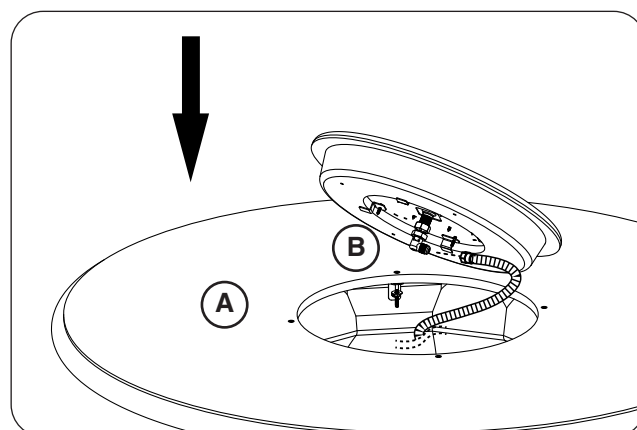

Fig. 29-4 Place burner and connect flex
6. Drop the burner assembly into the opening in the center of the firetable top (see Fig. 29-4, A).
7. Locate the flex connector (marked OUT) that is coming off the valve assembly. Route it to the connection found on the underside of the burner assembly and connect. Tighten securely. See Fig. 29-4, B.